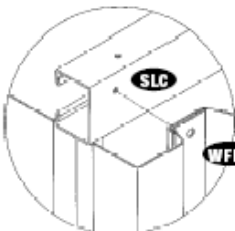

Fig.1
9. Place the sliding channel left (SLC) on top of the wall panel (WFLC) from inside. See the position in fig.1. Line up the holes with wall panel use (S1) screws with washers to fix. See fig. 2